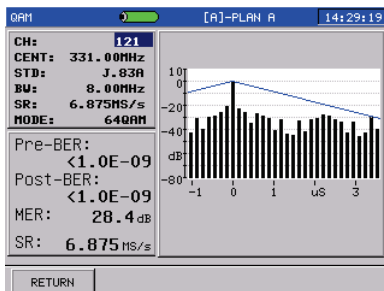

Figure3-2-10
**EQU(F1):** Press EQU soft key to enter Equalizer interface as Figure 3-2-10.